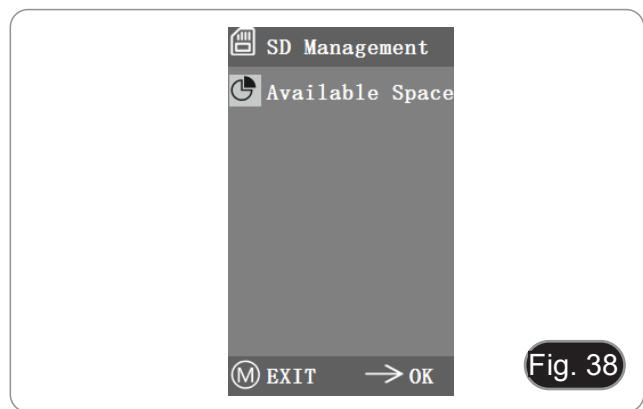

Fig. 38
1. After inserting the SD card, the remaining space and total space of the SD card can be seen in "Available Space". (Fig. 38)